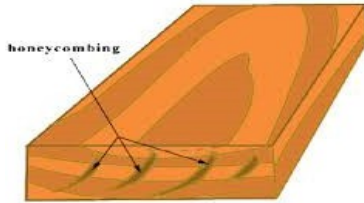

Fig. 127. Honeycomb
3. Honeycombing: Separation of wood fibres in the interior of wood, usually along the wood rays and may not be visible at the surface (figure 127).